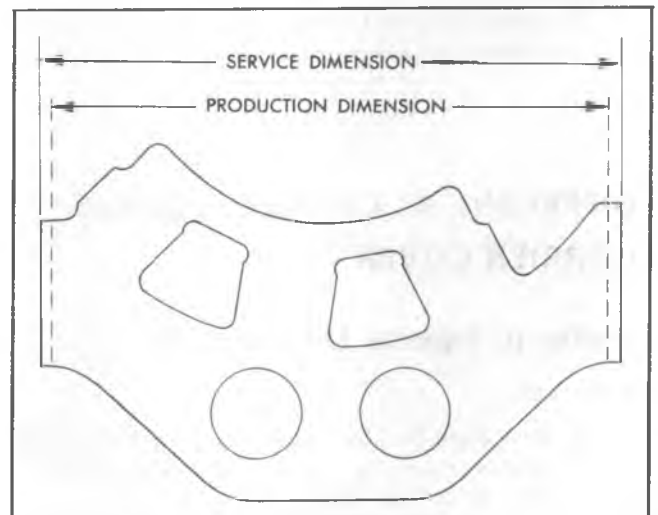

Fig. 8L—Bearing Adjusting Lock Service Replacement
6. Install right-hand bearing adjuster lock (4) and secure with cotter pin.
NOTE: Check fit of left-hand lock (35) in bearing cap (5). Lock should be an interference fit in the bearing cap. If lock is loose replace with a service lock which is 1/8" wider than the production lock Figure 8L. To fit the new lock to the bearing cap, grind both ends of the lock until an interference fit of .008" to .012" exists between the cap and lock. Care should be taken to keep lock surfaces parallel with the mating surfaces of the bearing cap.
7. Install left-hand lock (35) and attach with two bolts (36). Secure bolt with lock wire.